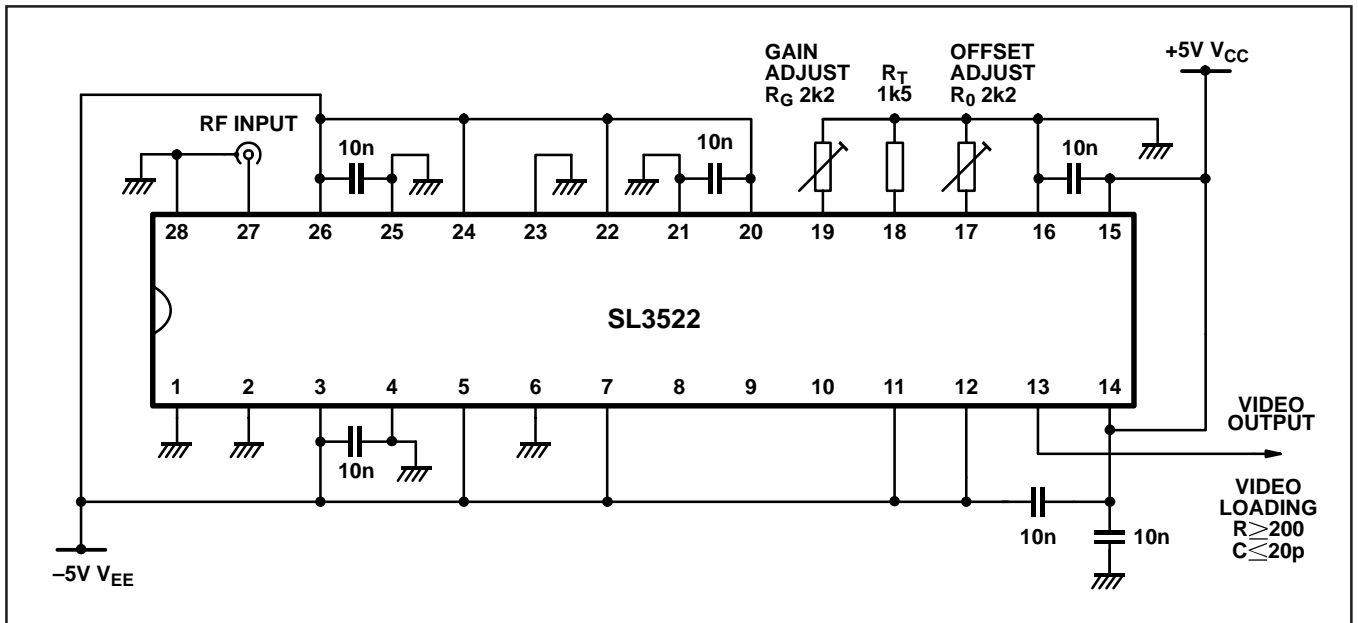
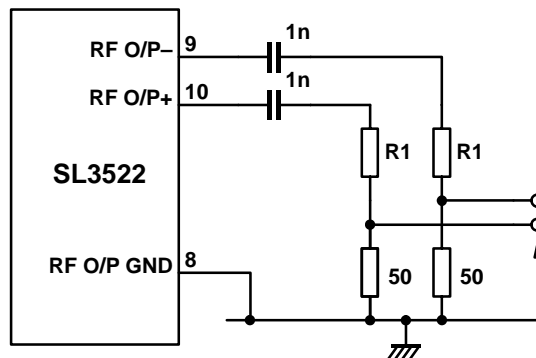

Fig.5 Application circuit successive detection logarithmic function only
Fig.9 Network for attenuating limited RF output
a) Gain and Offset trimming (ref Applications circuits in figs 5 and 6)
If the SL3522 is to be used as a Logarithmic successive detection amplifier only, with no requirement for a limited RF Output, the RF input (pins 27 and 28) can be driven EITHER differentially or single ended from a 50 Ω source. If being used with a single ended input, the SIGNAL should be applied to pin 27 and the RETURN should be connected to pin 28, as shown in the Application circuit diagram in Fig 5.
If required the limited RF Output can be attenuated using an attenuation network as shown in fig. 9. Under these conditions the effective RF Output currents will be reduced, allowing the device to operate with a greater margin of stability. It may be possible to run the device without a BALUN transformer on the RF input if the total output impedance on the RF Output $\gg 50\Omega$, and the attenuation components are mounted as close as possible to the RF Output connections (pins 9 and 10). The RF input connection could then be configured as in Fig 5.